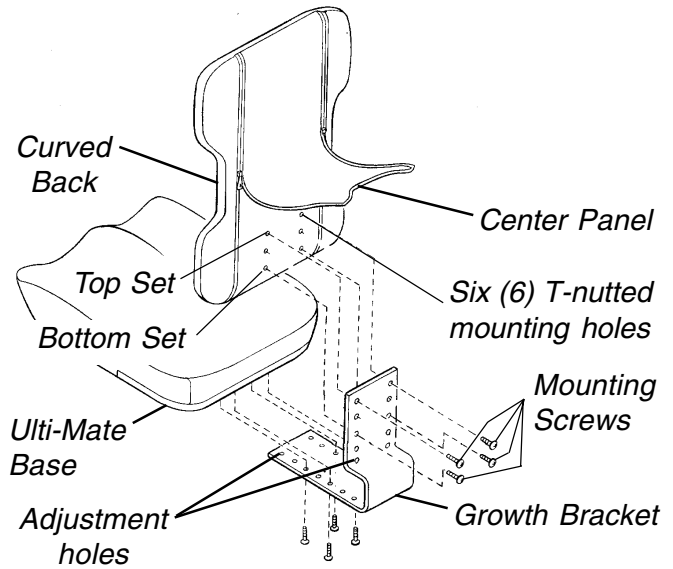

FIGURE 1 - ATTACHING/ADJUSTING THE FIXED GROWTH BRACKET
2. Unzip center panel of the back cover, exposing the six (6) T-nutted mounting holes.
*NOTE: Make sure the growth bracket is positioned correctly. The flat portion of the growth bracket provides depth adjustment for the Ulti-Mate Base. The angled portion of the growth bracket provides height adjustment for the Curved Back. See **FIGURE 1**.*
3. Install four (4) of the mounting screws through the holes in the growth bracket and into the back shell. Securely tighten.
Adjusting the Growth Bracket (FIGURE 1)